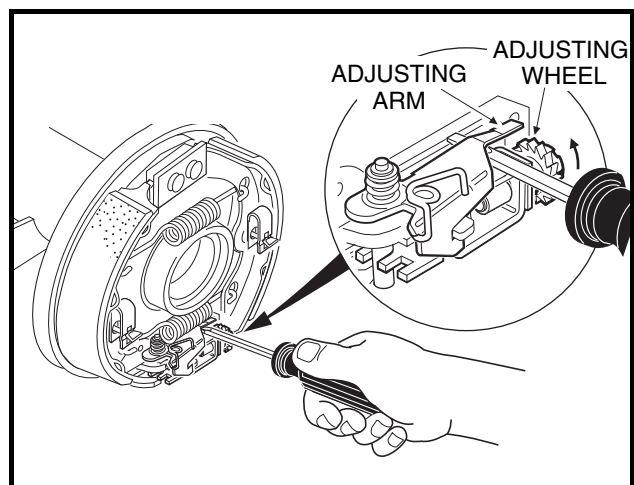

Figure 6-17 Turn Adjusting Wheel
6. Place a flat blade screwdriver under the adjusting arm and raise arm off of the adjusting wheel. While holding the arm up, turn the wheel upward until it stops (**Figure 6-17, Page 6-7**). Remove the screwdriver. **See following CAUTION.**
2. Make the brake shoe and drum adjustment by pressing and releasing the brake pedal repeatedly until an audible clicking can no longer be heard (**Figure 6-17, Page 6-7**).